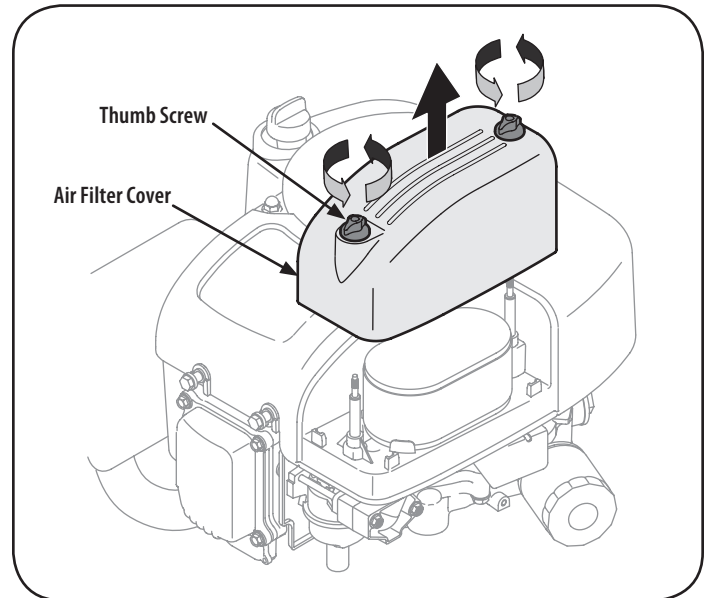

Figure 25
1. Unscrew the thumb screws and remove the air filter cover. See Figure 25.